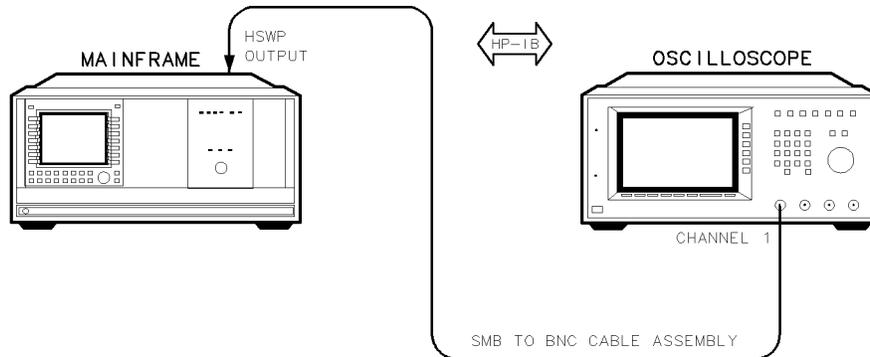

Figure 7-21. Line Triggering Test Setup
3. Connect the HP 54503A digitizing oscilloscope's CHANNEL 1 INPUT to the DUT's HSWP OUTPUT using the SMB-to-BNC cable assembly, as shown in Figure 7-21. The oscilloscope will display a 50 ms square wave with 8 ms, 5 V positive peaks.